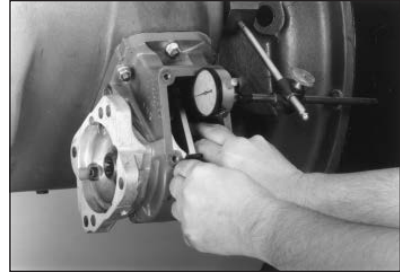

Figure 10
2. Mount the dial indicator so that it registers movement of the input gear (driven gear) of the PTO (**Fig. 10**).